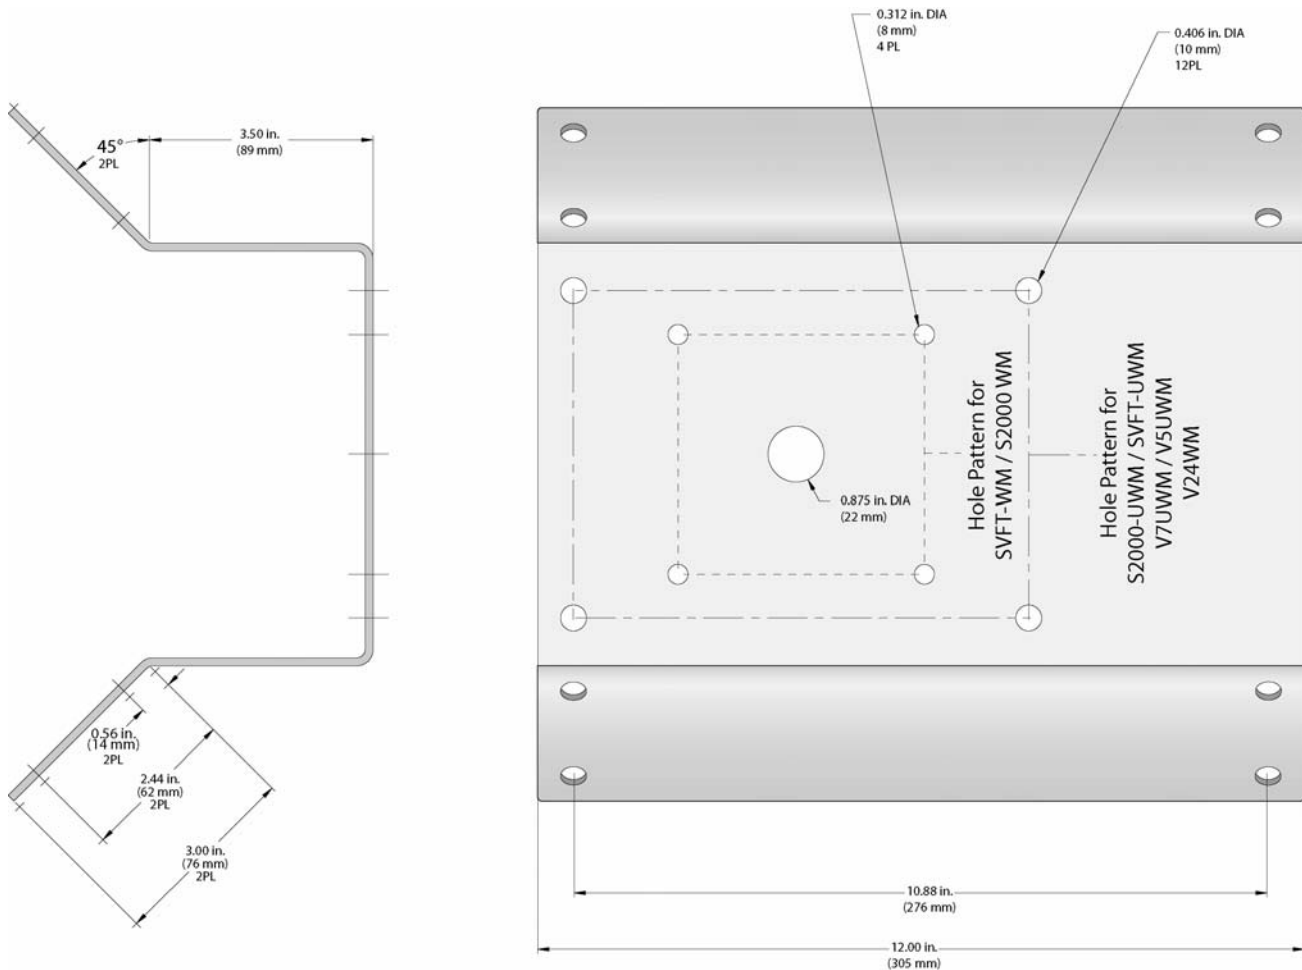

Figure 1
2. Secure the V24CMB to the structure with eight (8) 3/8-in. lag screws or hex bolts (or studs). Use the V24CMB as a template if holes are to be pre-drilled. Refer to Figure 1 for the dimensions of the V24CMB.
3. Secure the wall mount base plate to the face of the corner mounting bracket with four (4) 3/8-in. x 1-in. hex bolts, nuts, and washers or four (4) 1/4-in. x 1-in. hex bolts, nuts, and washers for SVFT/S2000-WM.